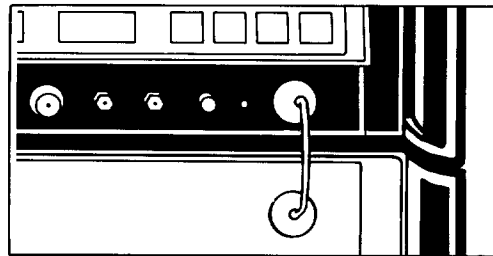

FIGURE 2-7. SEMI-RIGID CABLE CONNECTION
1. If the preselector is connected to an HP 8568B Spectrum Analyzer, connect the type N-to-type N semi-rigid cable, HP Part Number 85685-20055, from the preselector output to the spectrum analyzer input 2, as in Figure 2-7. If the preselector is connected to an HP 8666B Spectrum Analyzer, use the type N-to-type N semi-rigid cable, HP Part Number 85685-20062, instead.